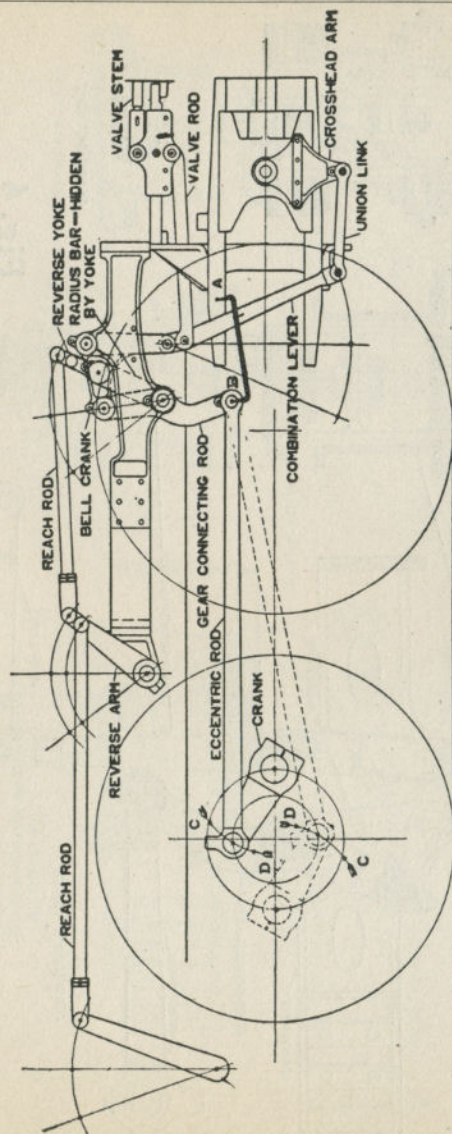

Fig. 5
**Eccentric Crank.** With the engine on the front dead center, tram from the center of the pin in front end of eccentric rod to any stationary point, such as the guide yoke or guides, as shown by tram points *A* and *B*, Fig. 5. (In most cases the wheel tram can be used for this work.) After scribing a line across the side of the main guide with the *A* end of the tram, revolve the wheel to the back dead center and scribe the guide again; if these two lines are together the crank setting is correct. If they are not, knock the eccentric crank in or out until they do. The position of the reverse lever is not important while finding the eccentric positions. After the valve setter has had sufficient experience, the location of the eccentric can be determined while obtaining the dead centers.